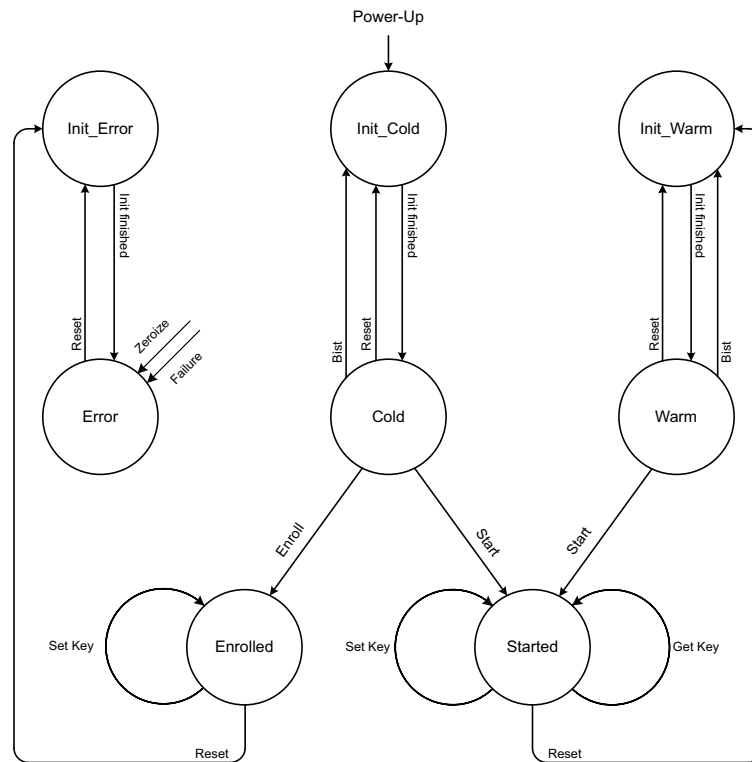

Fig 175. Possible flows, states, and actions
After power-up or reset the PUF controller starts in one of the three Init states, depending on its previous state. See Figure 175. It first initializes itself (indicated by BUSY = 1).
3. After the operation is finished the PUF de-asserts BUSY and asserts SUCCESS, signaling that the Start operation has completed successfully. When ERROR is asserted, instead of SUCCESS, the provided activation code does not match the device. In this case the PUF as gone to the Error state. See Figure 175 and Section 48.10.7.13 "Error response".
3. After the operation is finished BUSY is de-asserted and SUCCESS is asserted. It indicates that the Get Key operation has completed successfully. If ERROR is asserted instead of SUCCESS, the provided key code does not match the device. In this case no key is provided and the PUF controller goes to the Error state. See Figure 175 and Section 48.10.7.13 “Error response”.